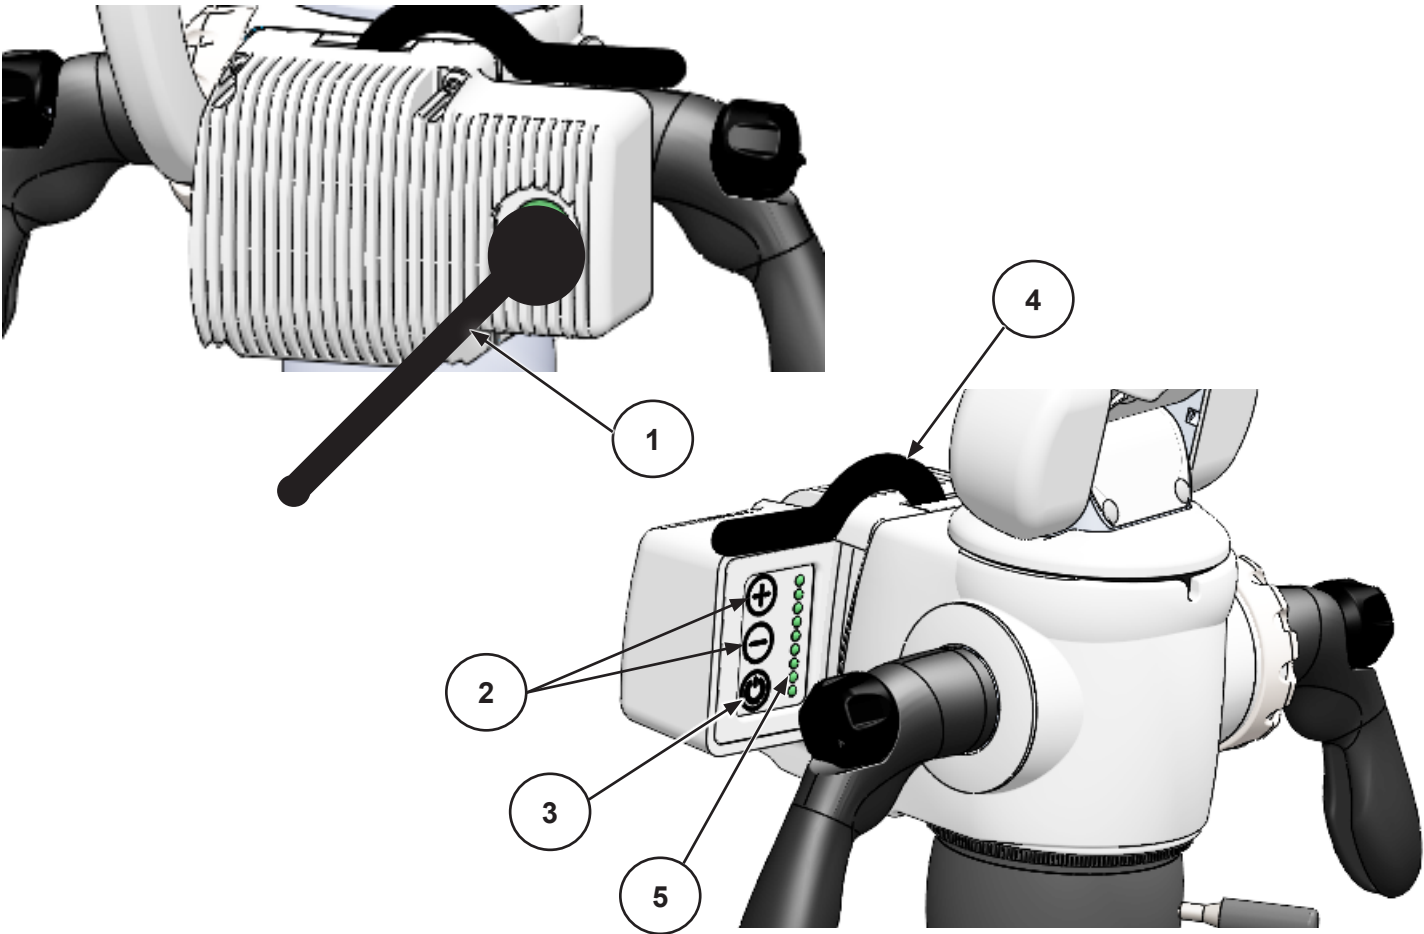

Figure 2-2 M A800-LED LED Light Source Components
1. Table 2-2 Lists the main components of the M A801-LED LED Light Source and See Figure 2-2 for the location of each component.